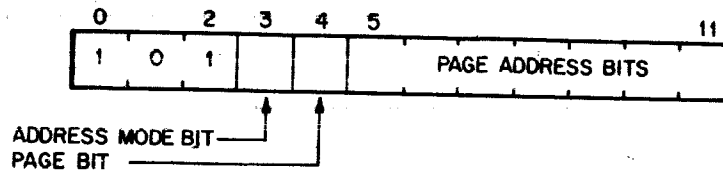

Figure 5-6 Jump Instruction Format
The Jump Instruction references a memory location and loads the address of the memory location into the Program Counter (PC). This address is then the address of the next instruction to be executed. Figure 5-6 shows the format of the instruction and Table 5-7 shows the mnemonic, the opcode and the operation of the instruction.